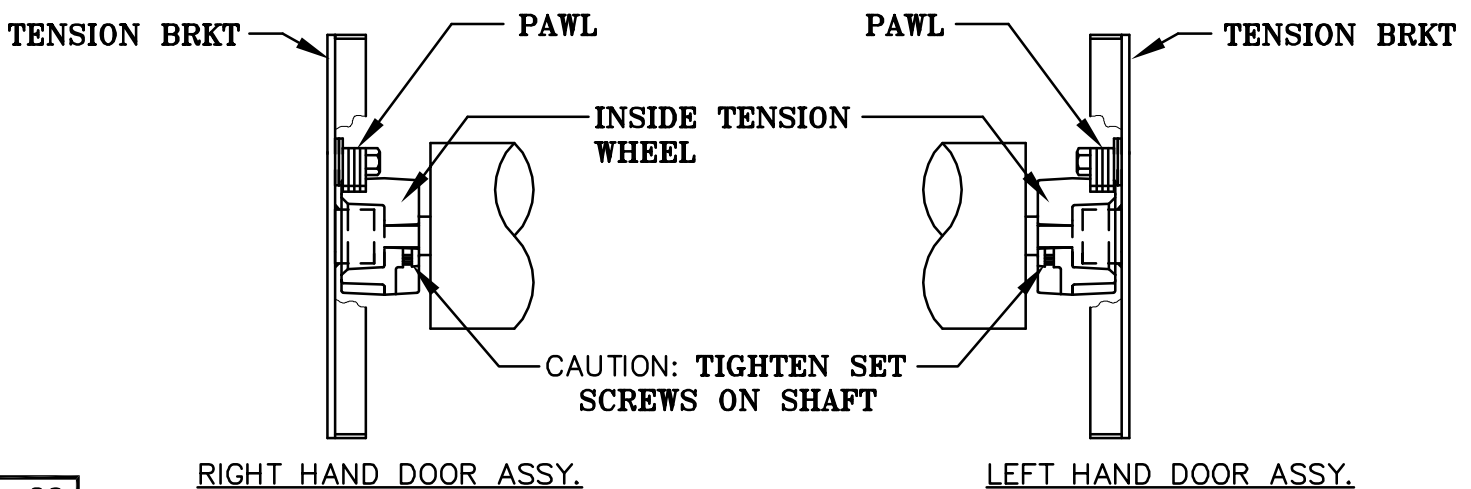

FIG. 20
- 2.) If you have an inside tension assembly, the tension wheel will be attached to the barrel as shown in FIG. 20.